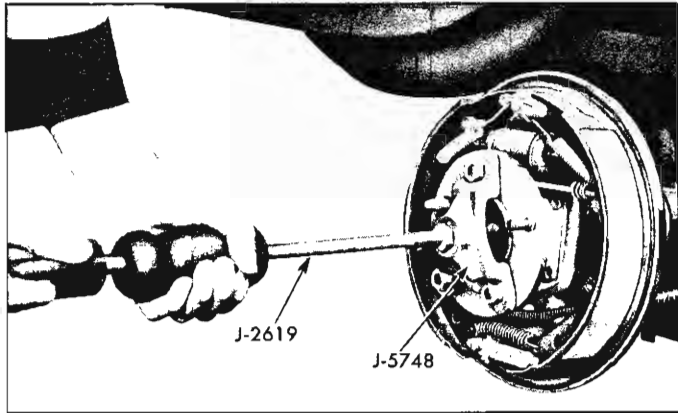

Fig. 2—Removing Axle Shaft
5. Attach Tool J-5748 with slide hammer to hub bolts with three hub nuts and remove axle shaft and bearing assembly and outer gasket (fig. 2). Be careful not to disturb brake backing plate and inner gasket.